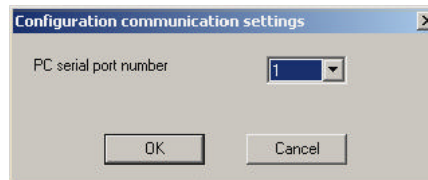

Figure 3: Communication Port Settings
2. Select **Configuration → Com setup** from the menu bar. The serial communication port dialog box appears (see Figure 3: Communication Port Settings).